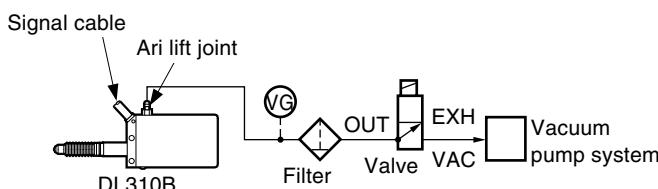

Fig. 1. Pneumatic Circuit
- The spindle of the DL310B can be air-driven by the pneumatic circuit shown in Fig.1, using a vacuum pump. Remove the screw at the installation aperture and attach the supplied air lift joint. Use vacuum pressure in the range 6.0×10^4 to 7.5×10^4 Pa. (The air driving feature is available for the DL310B only.)